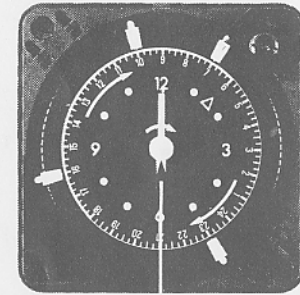

Fig 2 Clock Adjuster
- Position tappets in outer dial as shown. Red tappets switch On, blue tappets switch Off. For example, if you want to switch on between 7 and 10 am and then between 4pm (16.00 on 24 hour dial) and 11pm (23 on dial), tappets are positioned as shown in fig 2. In the event of power cuts etc, remember to reset the clock by turning clock fingers clockwise only using clock adjuster knob.
## Setting Correct Time and required On-Off periods — refer fig 2.